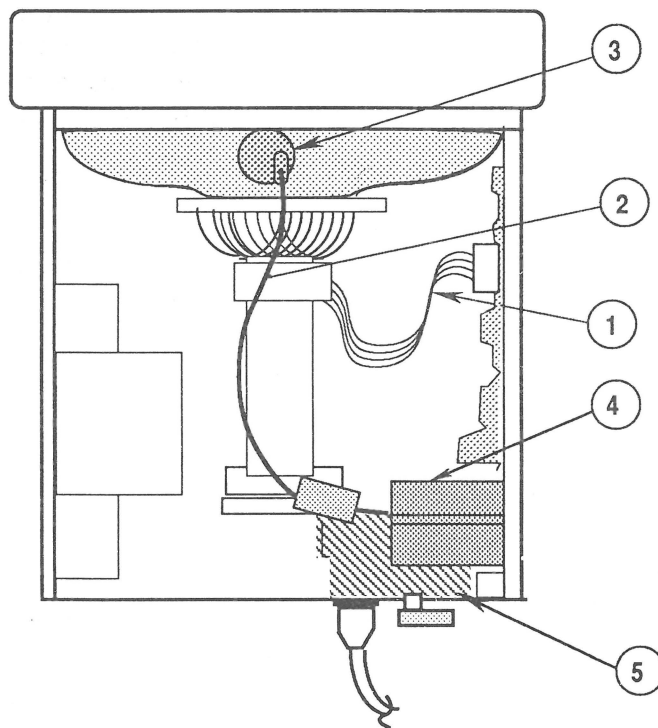

FIGURE 1
WARNING: Serious injury could result if, with the power on, you touch any of the components shown in Figure 1.
- Any part of the yoke assembly, including the yoke wires (Figure 1, #1)
- The anode wire (Figure 1, #2)
- The anode connector (Figure 1, #3)
- The flyback transformer (Figure 1, #4)
- The inside of the AC power switch (Figure 1, #5)